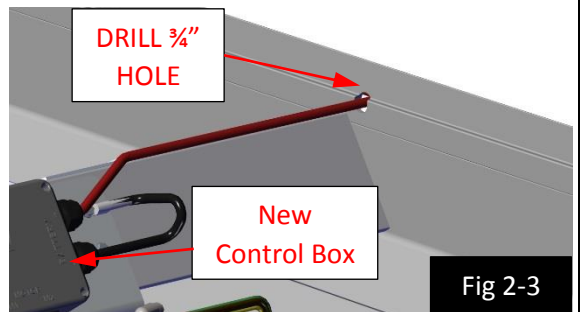

Fig 2-3
a. Drill a  $3/4$ " hole 1" above the bend in the side rail near the tub cross-member on the passenger side of the trailer for the new 4AWG power wire. (See Fig 2-3)